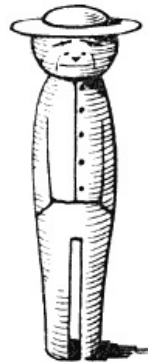

FIG. 33.
*Skittle Men.*—Another piece of work for the pocket-knife expert is the provision of a set of funny skittle men for use in the game of catapult skittles (see below). These can be cut out to any quaint shape, and may be caricatures of well-known people, or of trades, &c. Much amusement can be got out of the cutting and painting of these grotesque little figures. Hats can be provided for them by glueing on little rings of cardboard (Fig. 33).